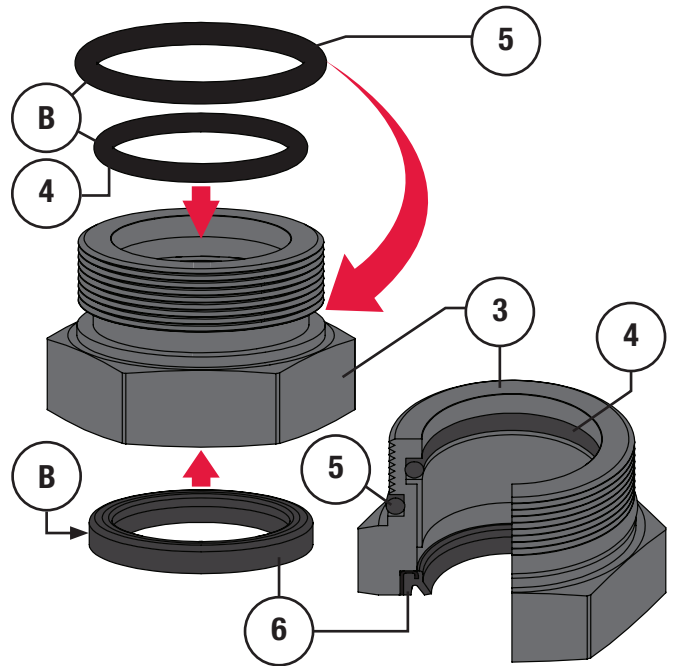

Figure 21 Bushing Assembly
- 1 Apply Dow Corning Molykote® 5 (Key B) to the bushing o-rings (Keys 4 & 5) and install them as shown in Figure 21.
- 2 Apply Dow Corning Molykote® 5 (Key B) to the lower wiper (Key 6) and install it as shown in Figure 21.